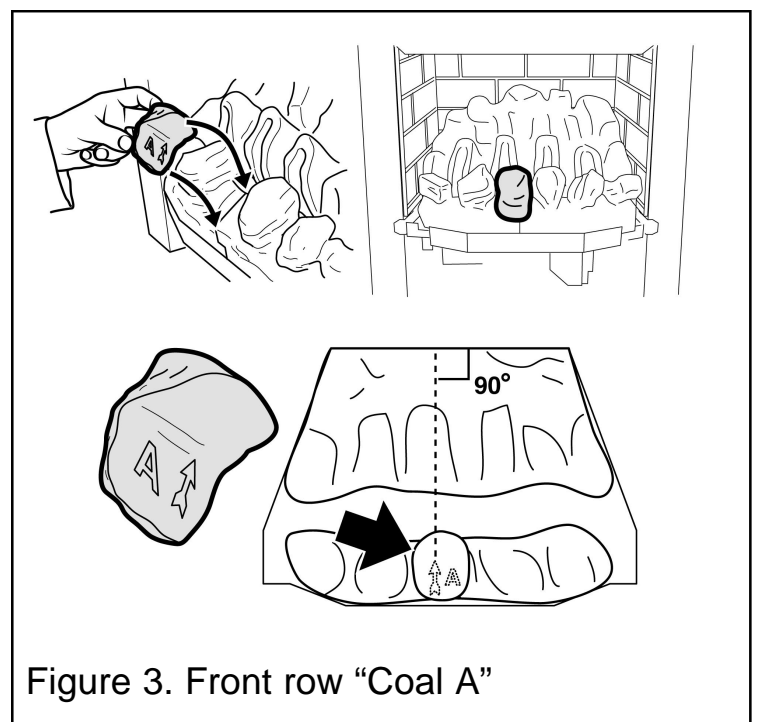

Figure 3. Front row "Coal A"
**5.** Hold coal 'A' upright with the arrow pointing to the top. Locate coal 'A' as shown in figure 3.